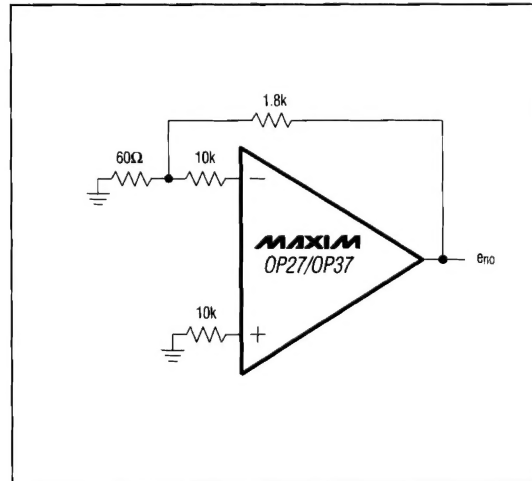

Figure 2. Current-Noise Test Circuit
**Note 8:** See test circuit for current-noise measurement (Figure 2).